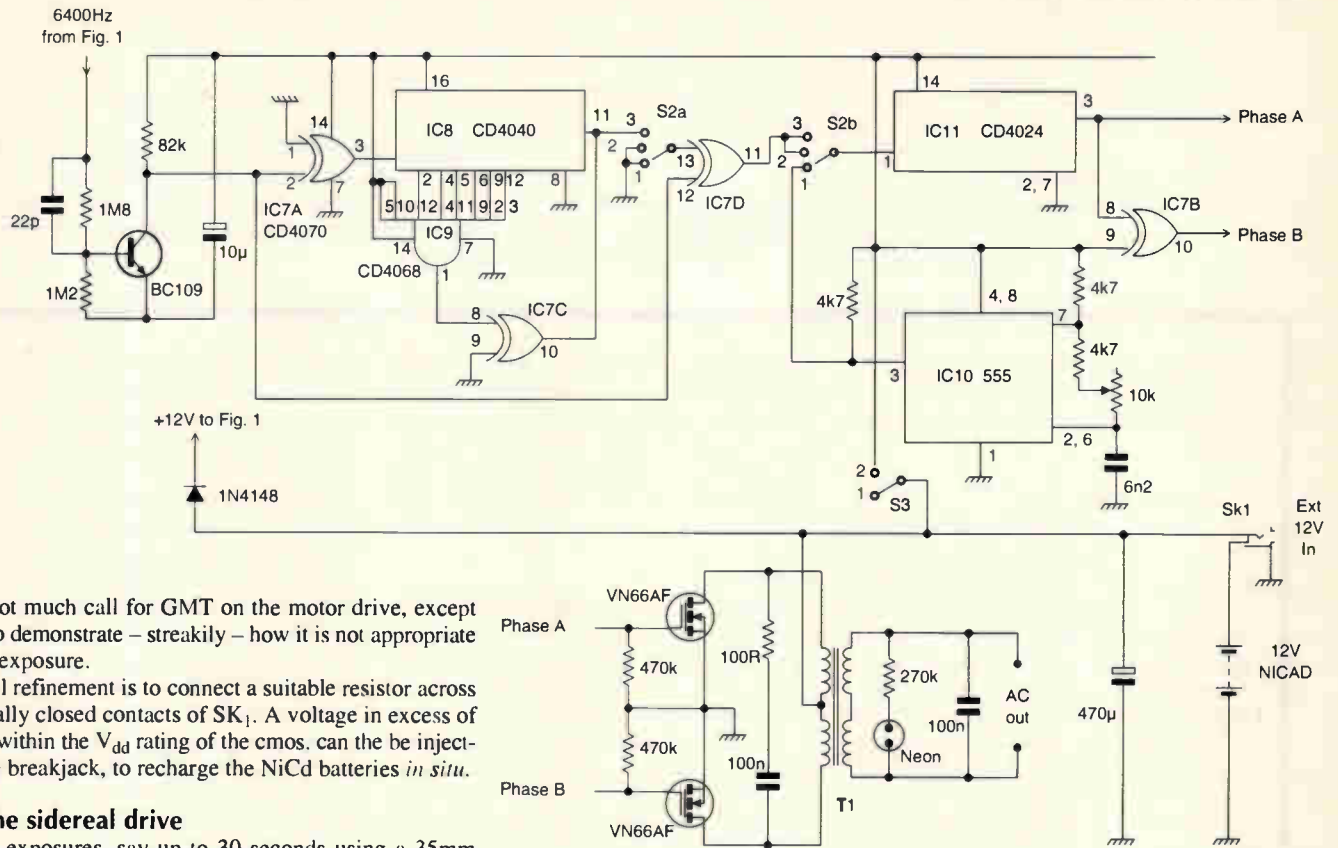

Fig. 2. Synchronous motor inverter circuitry for the equatorial drive. The output transformer is a mains isolating transformer used back to front.
**Figure 2** shows the equatorial mount drive part of the circuitry. The divide-by-512 output from IC1 provides a 6400Hz clock to IC7,8. These ICs provide the same 365/366 choice as in Fig. 1.